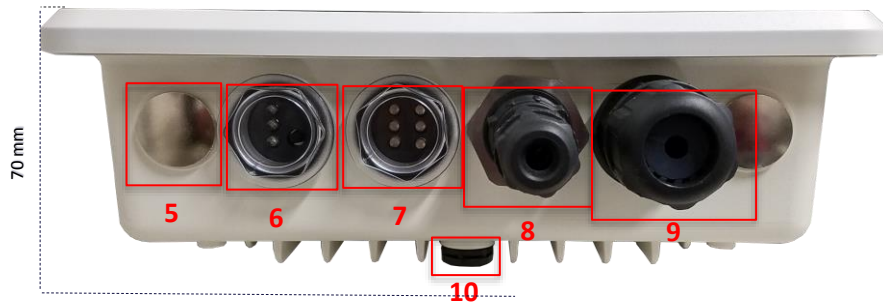

Figure 41: Side panel of the IP67 Rated Sentrius™ RG1xx Gateway
- Mount the completed cables into the keyed power module slot and the Ethernet module slot #8 and #9 from Figure 41.